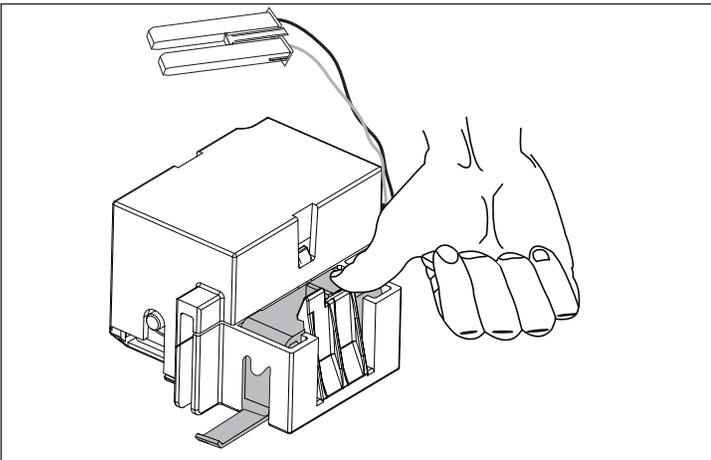

Figure 10. Step 3.
**Step 3:** Carefully press the latch check switch down as shown until a snapping sound is heard. This sound indicates the switch is properly seated (Figure 10).